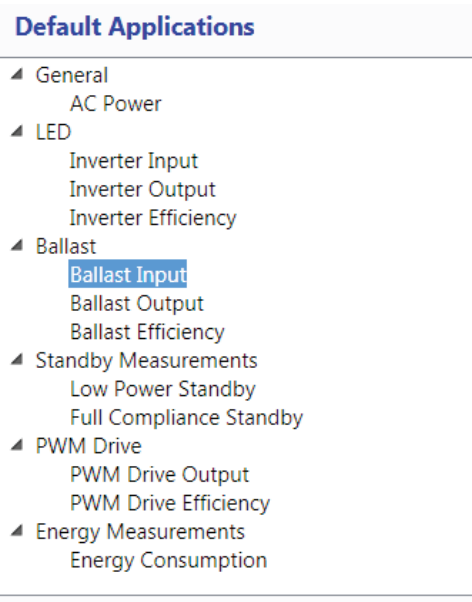

Figure 4. Ballast Setting Window.
- Select Ballast Input in the Default Applications list (see Figure 4), then click on the Wizard button to set up the ballast test.
- Follow the Wizard setup instruction in the main screen window. The Wizard will guide you through ballast parameter setup and how to make connection between PA1000 and ballast under test (see Figure 4).